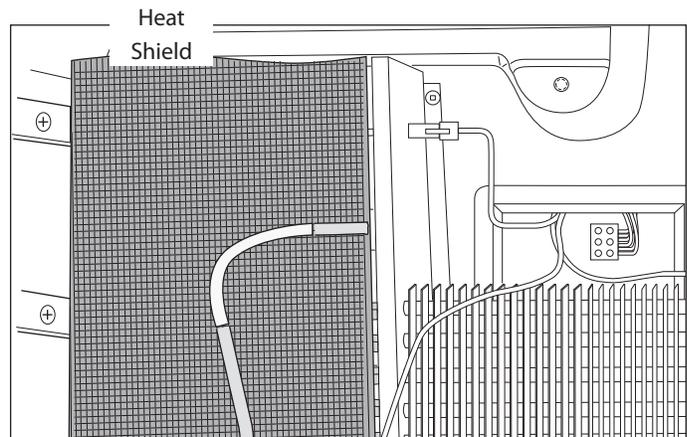

Figure 7-8.
9. Cut a small "X" in heat shield, then slide cap tube and suction line through hole. Pack heat shield in back corner of liner. (See Figure 7-8)
10. Cut a seam in heat shield 1/2 way through, then slide cap tube and suction tube through the opening. (See Figure 7-8) Pack heat shield against ice maker frame and liner.
5. Cut suction line in front of weld at evaporator. Using a file, score and break the cap tube just in front of the weld. (See Figure 7-8)